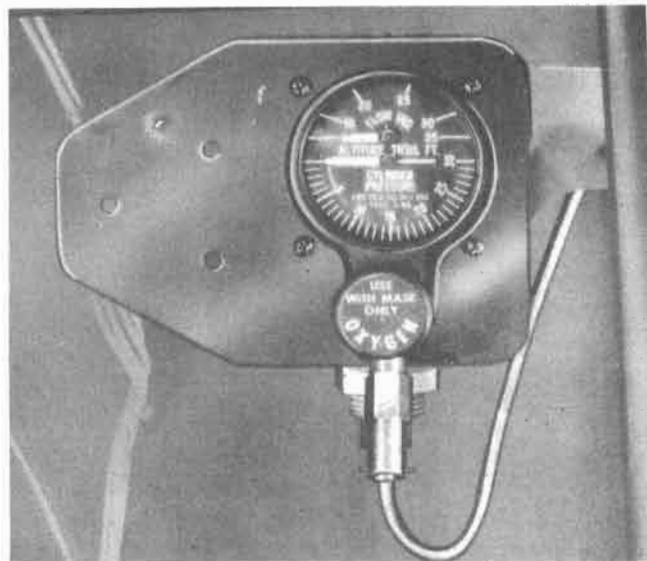

Figure 303 — Pressure Gage, Regulator, and Flow Indicator
(4) PRESSURE GAGE.—(See figure 303.)—Each pressure gage is of the type A-8 series (Pioneer, or approved equivalent). It is an instrument that indicates the gage pressure of the oxygen in the supply cylinders, its purpose being to show the available oxygen pressure.